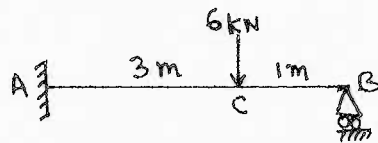

Fig.Q6(a)
- 6 a. Analyze the propped cantilever beam subjected to the loadings as shown in the Fig.Q6(a), by consistent deformation method. Support B sinks by 25 mm. Take $E = 10 \text{ GPa}$ and $I = 20 \times 10^6 \text{ mm}^4$. Draw BMD and SFD.